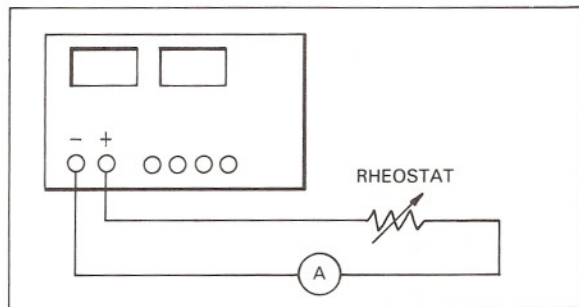

Figure 7-3.
- Connect a known calibrated ammeter and a 18W (30W for the LPS-152) rheostat as shown in Figure 7-3.